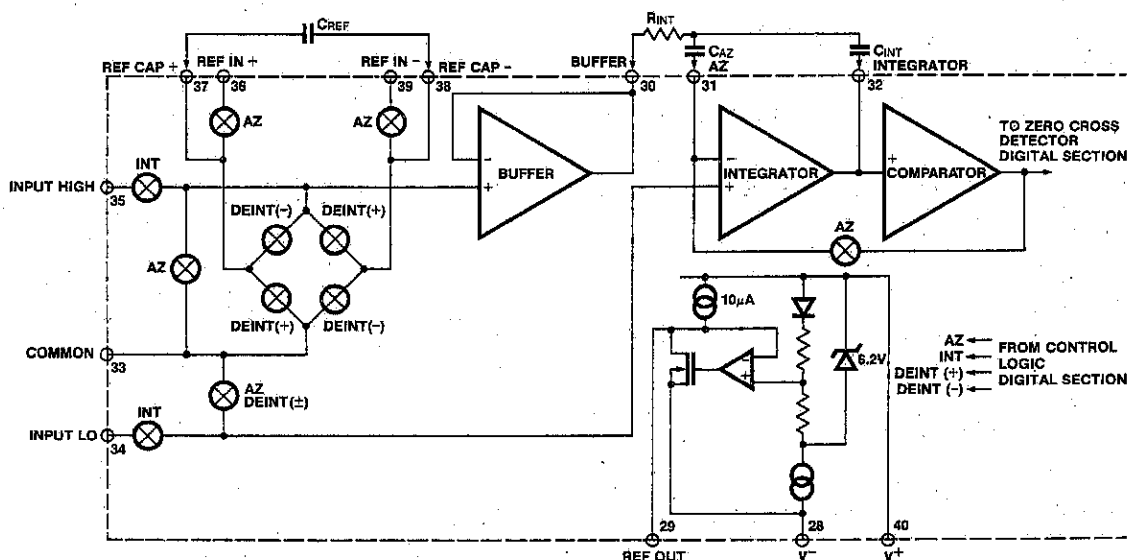
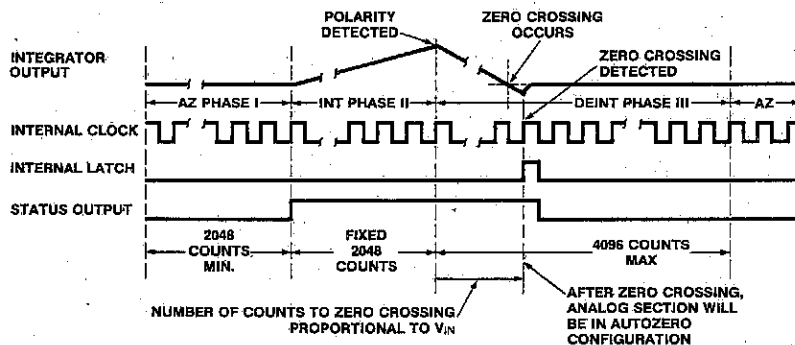

Figure 2: Analog Section
Figure 3: Conversion Timing (RUN/HOLD Pin High)
Figure 2 shows the equivalent circuit of the Analog Section of the ICL7109. When the RUN/HOLD input is left open or connected to V+, the circuit will perform conversions at a rate determined by the clock frequency (8192 clock periods per cycle). Each measurement cycle is divided into three phases as shown in Figure 3. They are (1) Auto-Zero (AZ), (2) Signal Integrate (INT) and (3) Deintegrate (DE).
During a conversion cycle, the STATUS output goes high at the beginning of Signal Integrate (Phase II), and goes low one-half clock period after new data from the conversion has been stored in the output latches. See Figure 3 for details of this timing. This signal may be used as a "data valid" flag (data never changes while STATUS is low) to drive interrupts, or for monitoring the status of the converter.
When the RUN/HOLD input is high, or left open, the circuit will continuously perform conversion cycles, updating the output latches after zero crossing during the Deintegrate (Phase III) portion of the conversion cycle (See Figure 3). In this mode of operation, the conversion cycle will be performed in 8192 clock periods, regardless of the resulting value.